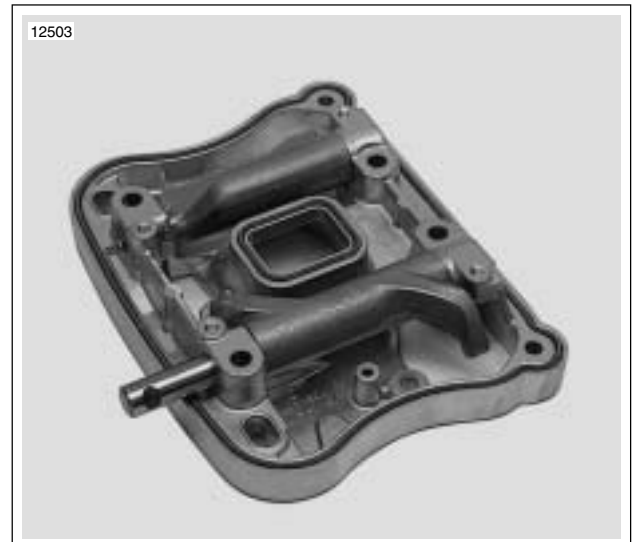

Figure 3-46. Removing Rocker Arm Shafts
8. See Figure 3-46. Remove rocker arm shafts by tapping them out using a hammer and a soft metal punch.